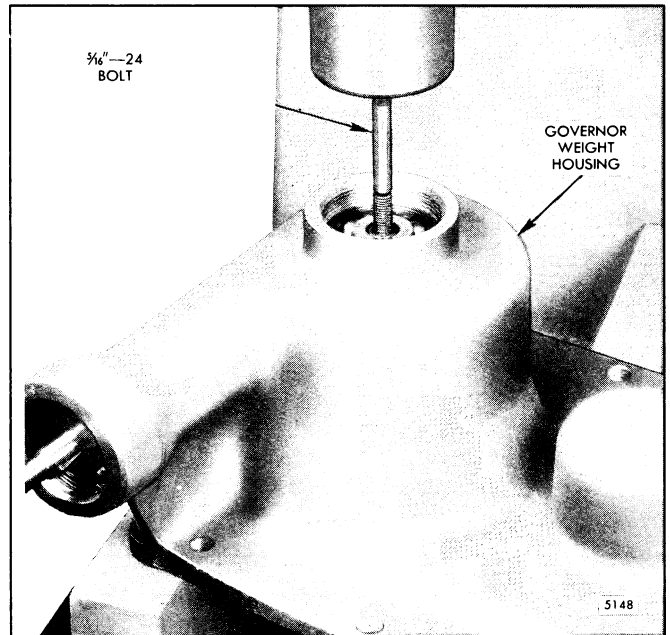
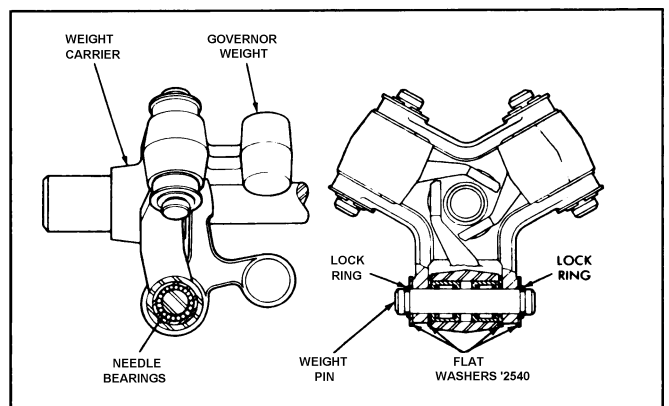

Fig. 9 - Removing Governor Weight and Shaft Assembly
Fig. 10 - Cross Section of Governor Weight Assemblies
- a. Remove the housing plug (46) and gasket (45) from the end of the weight shaft (40).
- b. Straighten the tang of the lock washer (48) and remove the bearing retainer bolt (47) and lock washer.
- c. Thread a 5/16"-24 bolt into the tapped hole in the end of the weight shaft and remove the governor weight and shaft assembly, using an arbor press (Fig. 9).
- d. Slide the riser thrust bearing (38) and riser (39) from the shaft.
- e. Remove the weight shaft bearing (49) from the governor housing.
- a. Remove one lock ring from each weight pin. Withdraw the pins, flat washers and governor weights (Fig. 10).
- d. Refer to Fig. 10 and install the governor weights, flat washers, weight pin and lock rings.